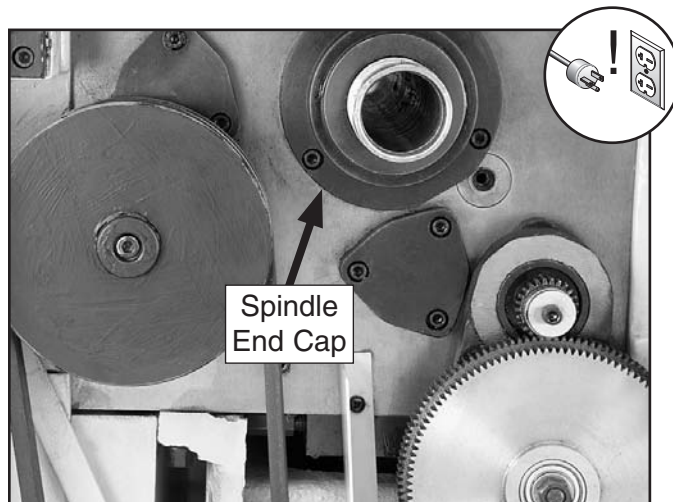

Figure 94. Spindle outboard end cap exposed.
4. Remove the chuck or faceplate from the spindle, then open the left side door to expose the outboard end of the spindle and its end cap, as shown in **Figure 94**.